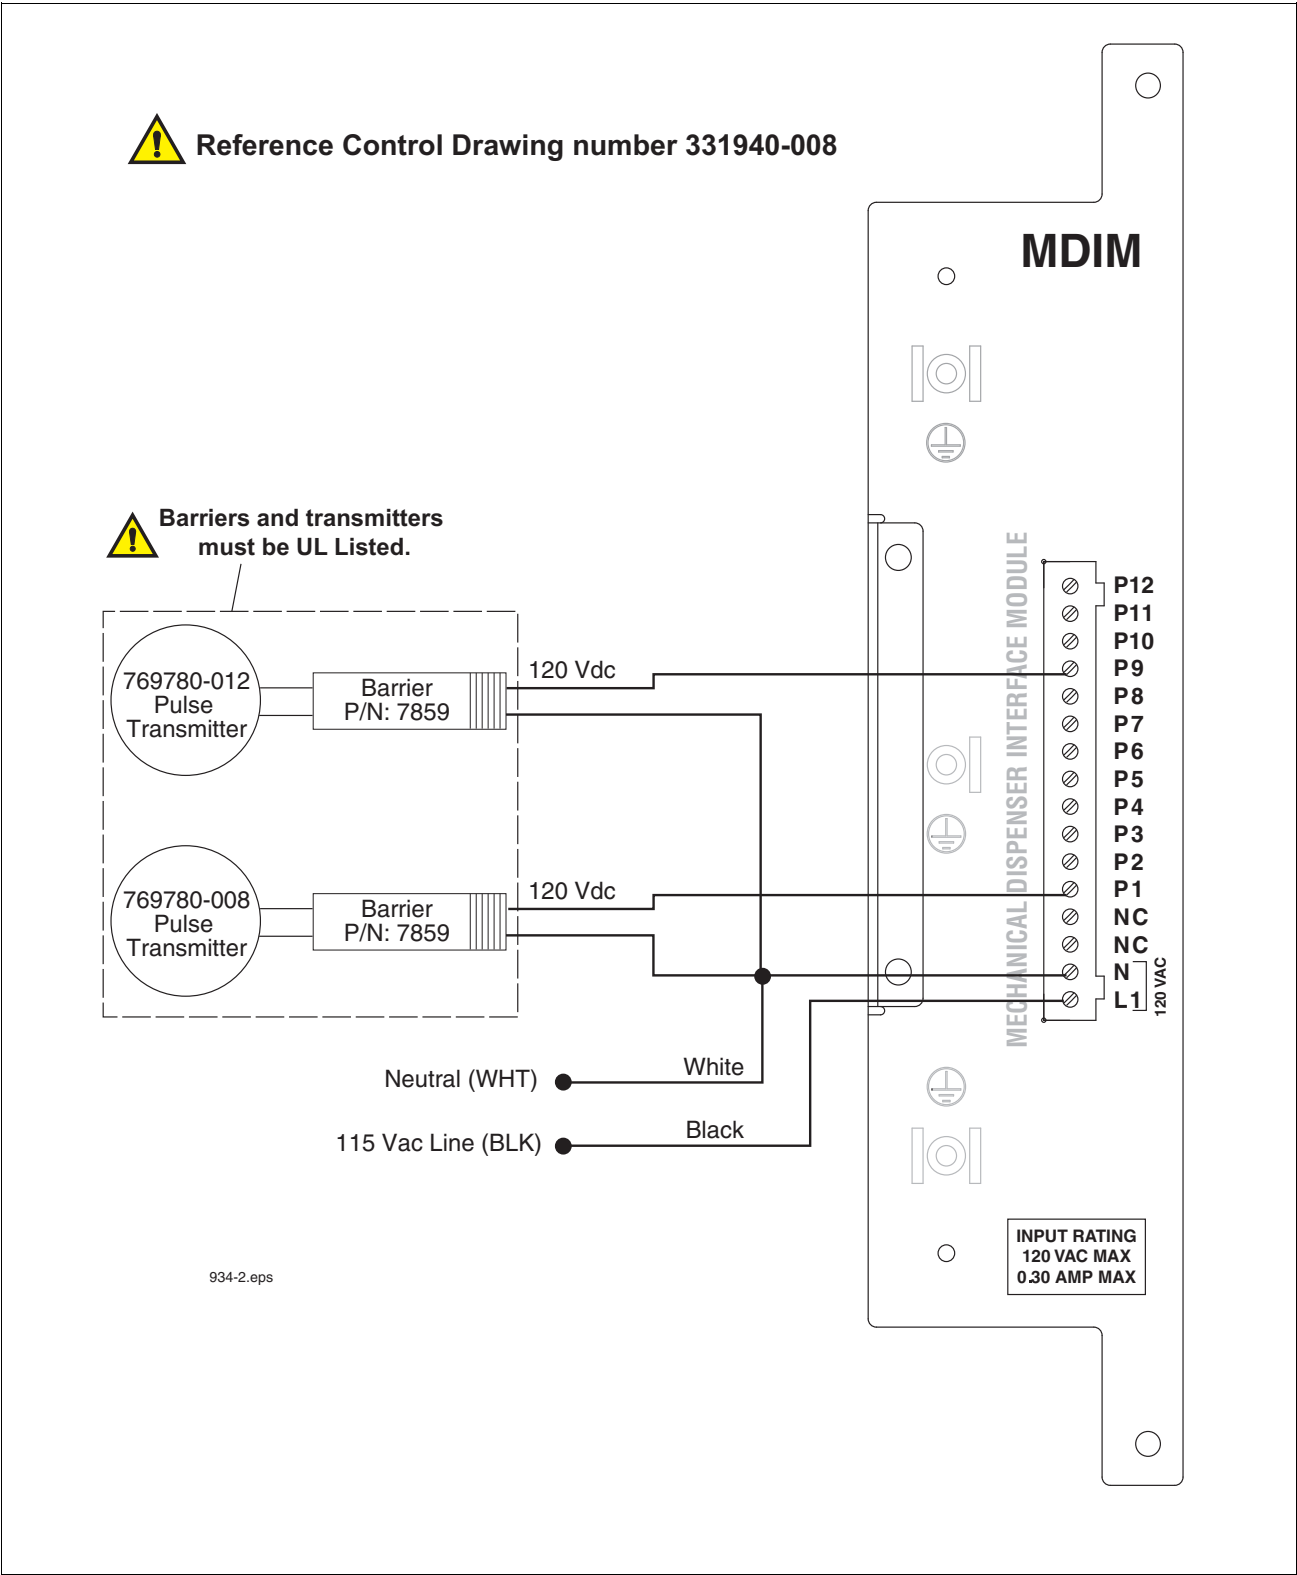

Figure 41. Connecting devices to the MDIM module
- Figure 41 - MDIM module wiring connections